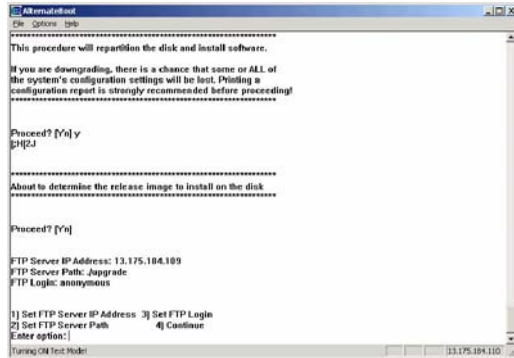

Figure 15 Selecting ESS Software
8. Select and transfer ESS Software file (Figure 15).
- c. Type 1 (Figure 15).